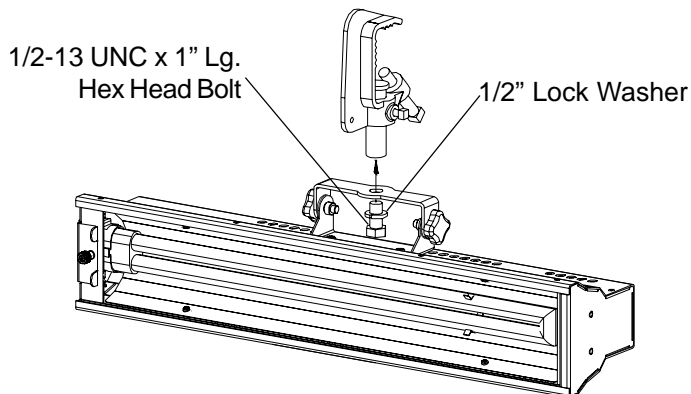

Figure 6
1. Thread mounting screw through yoke and into adapter (Fig. 6).